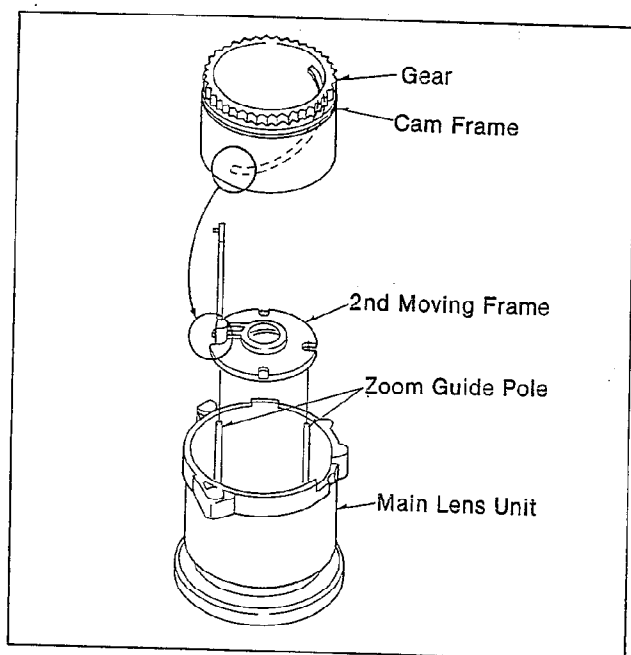

Fig. C3
- (1).At first,Set the Lens unit that surface of look down as shown in Fig.C3.
- (2).Insert the Guide Pole to Main lens Units.
- (3).Insert the 2ND Moving Frame(Zoom Lens) to Guide.
- (4).Insert the Cam Frame to Main Lens Unit so that the end of ditch on Cam-Frame meet to cutting edge of the 2ND Moving Frame(Zoom Lens). After that fix the pole Guide by finger, and then turn the Gear on the Cam Flame in both direction to confirm the smooth movement of 2ND Moving Frame(Zoom Lens).
- (5).Insert the 3RD unit then tighten the 3-screws.
- (1).Insert the 4TH Moving Frame unit so that insert the Zoom Guide Pole and Focus Guide Pole as shown in Fig.C3 and C6.